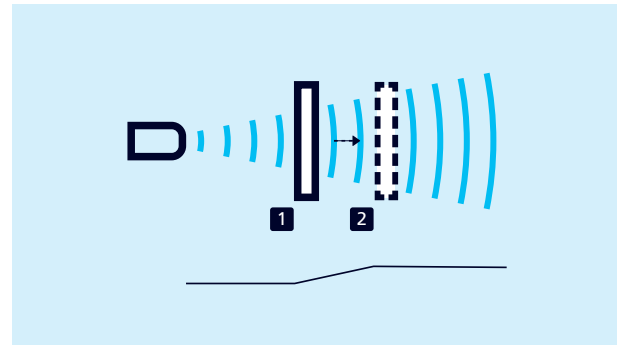

Fig. 11: Analogue characteristic curve
- The analogue characteristic curve lies between SP1 and SP2. The analogue characteristic curve can be selected between rising and falling (see Fig. 11).